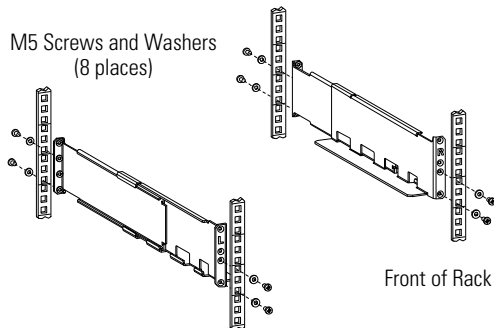

Figure 1. Securing the Rails
2. Select the proper holes in the rail for positioning the PDM in the desired location in the rack (see Figure 1).